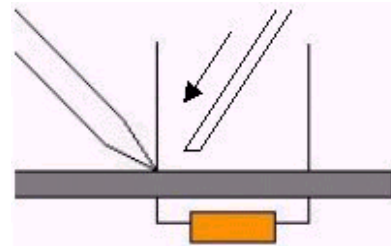

Figure 2
7. Apply solder (see Figure 2).